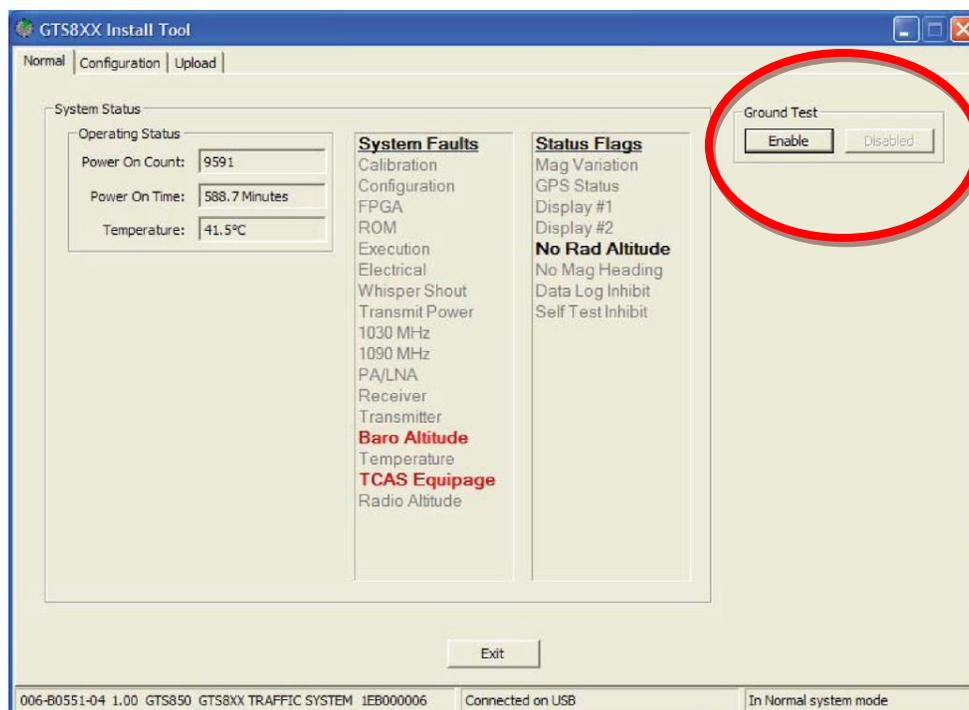

Figure 10. Ground Test Button
1. Activate ground test mode by clicking 'Enable' in the normal tab of the GTS 8XX Install Tool (Figure 10). This simulates the GTS to be airborne at 50,000 ft with magnetic heading of 0°. Note: The GTS 8XX will not accept the Ground Test command unless the unit is in Standby and the squat switch indicates the aircraft is on the ground.